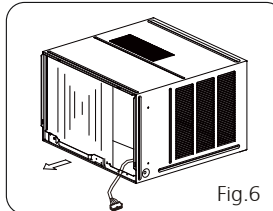
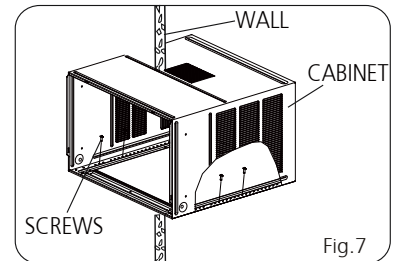

Fig.6
Fig.7
2. Grasp the handle on the chassis and carefully slide the air conditioner out of the cabinet. (See Fig.6)
3. Install the cabinet into the wall and secure. Ensure the foam seals are not damaged. Flash, seal or fill gaps around the inside and outside to provide satisfactory appearance and protection against the weather, insects and rodents. (See Fig. 7)
4. Install the frame and front panel according to the above Fig. 6 and Fig. 7.